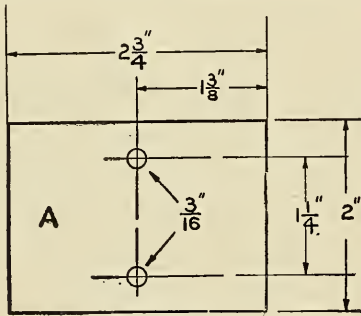
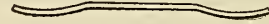
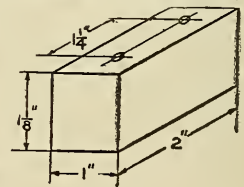

FIG. 62
FIG. 64
FIG. 65
construct. This should be mounted on the top of the cage and arranged so that it can be moved back and forth over the entire length of the winding. Cut from some hard wood two pieces one inch wide, one inch thick and 14 inches long as supports for the sliding contact. Mount them in the two notches in the top of the end pieces. Place a piece of 1-32-inch brass or copper one inch wide and 14 inches long on one side of one of these pieces so that it will be on the underside when the wooden strip is mounted. Decrease the thickness of the wooden piece an amount equal to the thickness of the brass strip. Now cut from some 1-16-inch brass two pieces (A) and (B) as shown in Figs. 62 and 63 and drill the holes as indicated. Bend (A) into the form shown in Fig. 64. Cut a block of wood with dimensions given in Fig. 65 as a handle to be used in operating the sliding contact, and give it the form shown in Fig.